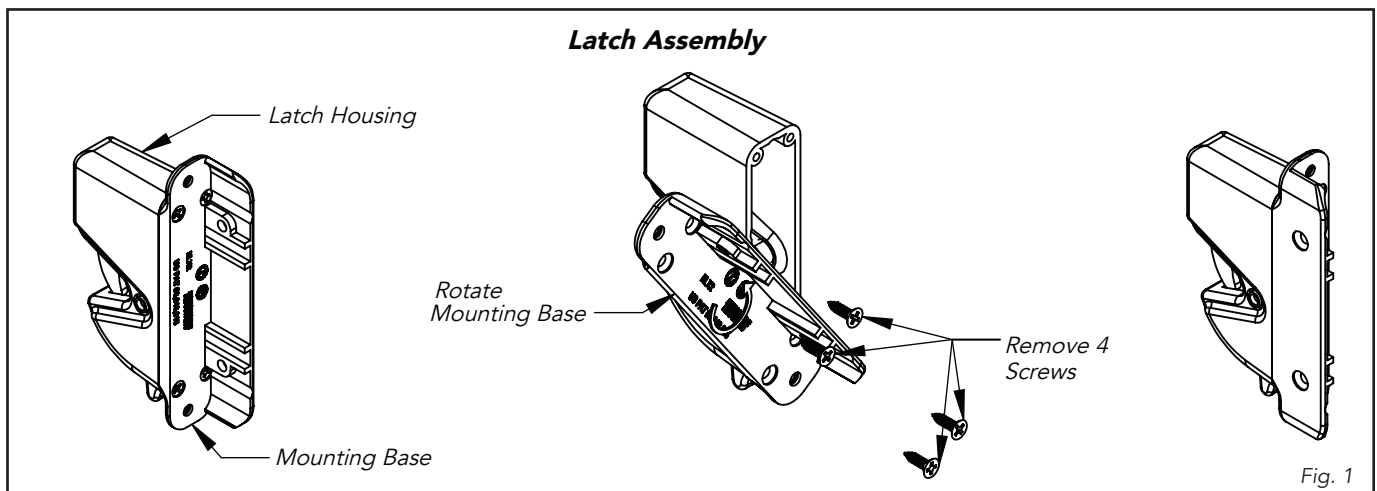

Fig. 1
1. The KLX2-P2 is designed to fit both right-hand and left-hand applications. To conform to your application the latch and button assembly may need to be reversed. To reverse the latch assembly: remove the four screws holding the mounting base, carefully lift and rotate the mounting base 180 (Fig. 1) and fasten with provided hardware.